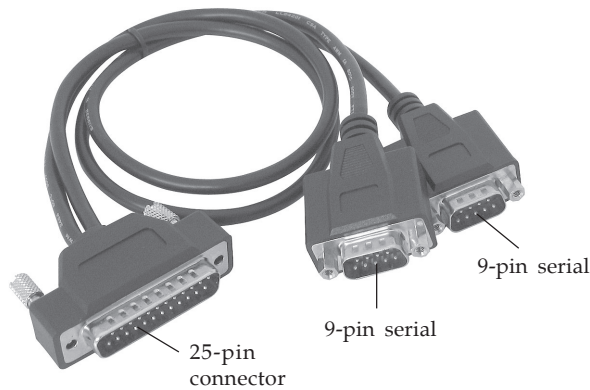

Figure 2: 2-port Fan-out Cable
9. Connect the **2-port fan-out cable** to the board's **25-pin connector**. See **Figure 2** on page 3 for more details.